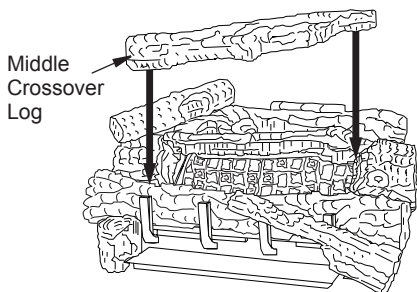

Figure 47 - Installing Middle Crossover Log
11. Rest the middle crossover log (18" D-070, 24" & 30" D-044) onto the right middle log and the left front log (see Figure 47). Make sure to match the projection on the bottom of the crossover log with the recess area in the right middle log and the left front log.